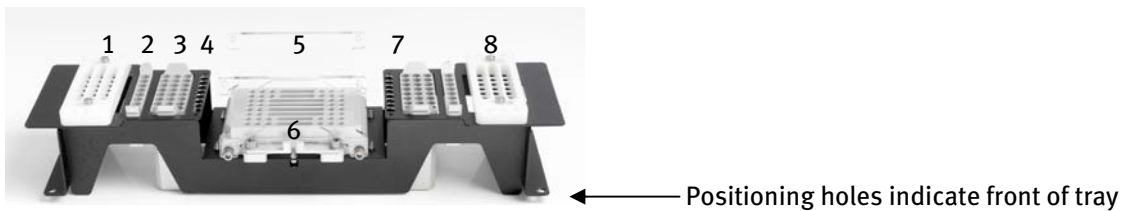

Figure 1: Loading of the worktray for RNA extraction:
3. Resuspend the **MoleStrips™** content by turning the strips upside-down 3 times. Open the jig handles (ref. 6 in figure 1) and place the black adapter plate with the **MoleStrips™** in the jig. Fasten the **MoleStrips™** to the jig by closing the jig handles.
4. Using Figure 1 as a reference load the worktray with tips, elution tubes and **MoleStrips™** according to the number of samples to be processed. Please note that tips, tubes and strips are loaded on the left hand side of the tray.
Optional DNase step	Load sample tubes containing DNase mix (200µl) on right side of tray, in position 7 in figure 1 (Further description on DNase mix, see table below). Also load tips on the right side of the tray, in position 8 in figure 1 (3 tips per sample).
6. Transfer 350 µl of the lysates to GeneMole® sample tubes and add 5 µl of glycogen solution to each sample. Place the tubes in the worktray according to Figure 1.